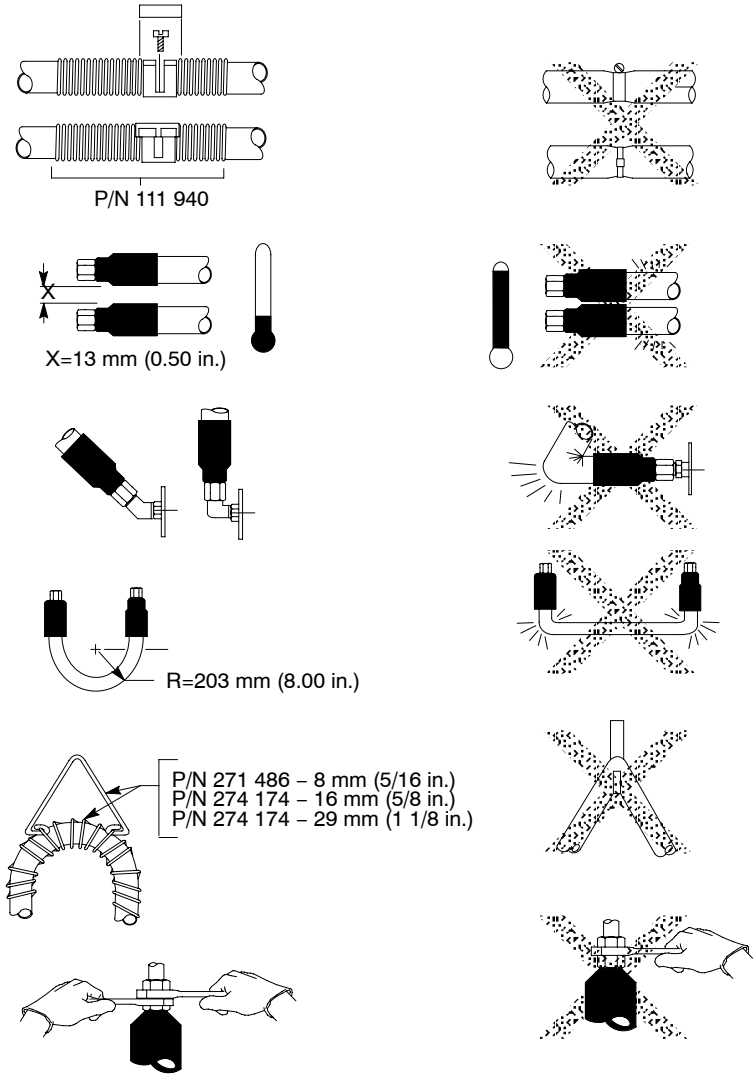

Figure 5: Hose installation guidelines
1. Observe the guidelines in Figure 5.